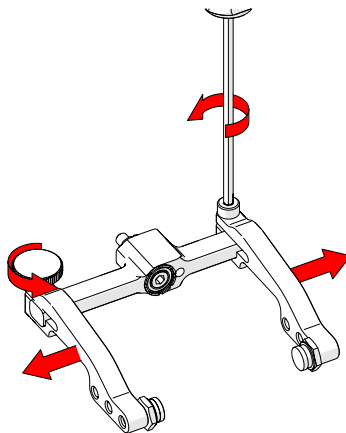

Fig. 143 - Remove probe holder arms
3. Loosen the probe holder arm adjustment knob and the arm clamp screw. Slide the probe holder arms off the yoke (Fig. 143).